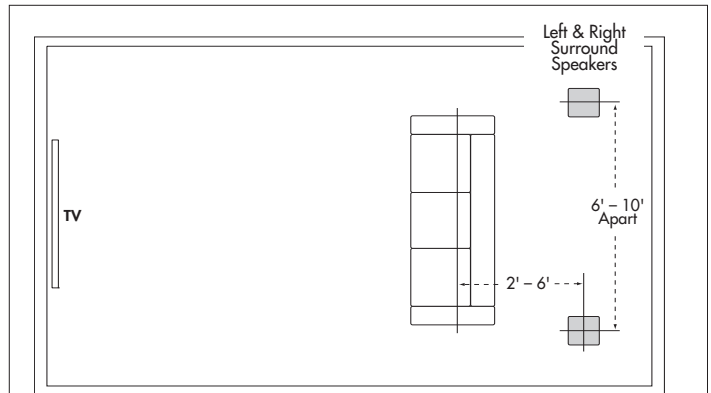

FIGURE 2: 5.1-CHANNEL SURROUND CHANNEL SPEAKER PLACEMENT
5.1-Channel System (see Figure 2)